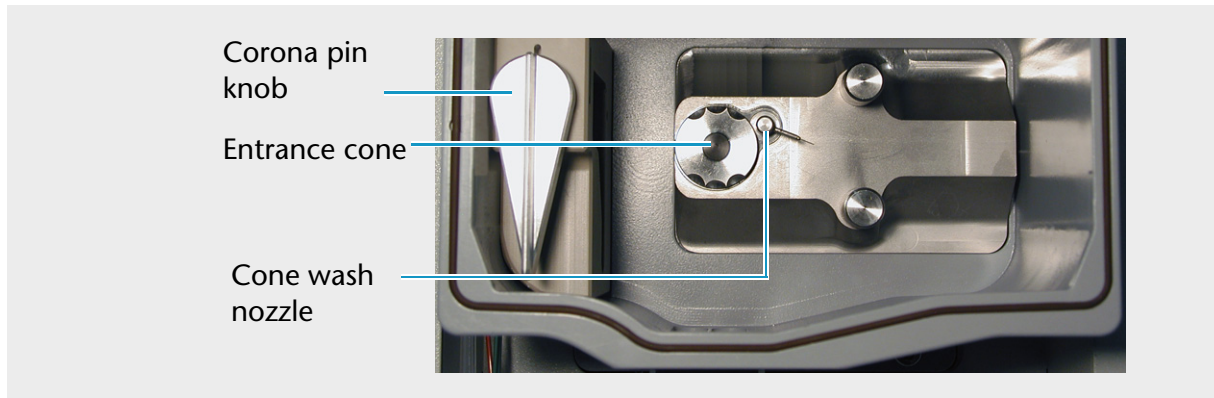

Fig. 60 View of the front side of the source block with the cone wash nozzle turned away from the entrance cone
Note: When it is not in use, ensure that the cone wash nozzle faces away from the entrance cone. See Figure 60 on page 90.
CAUTION! The corona needle is very sharp. Do not attempt to remove the entrance cone or the cone wash nozzle before you turn the corona pin knob to its vertical position. See Figure 60.
2. Being careful to handle the cone wash nozzle by its base, rotate the cone wash nozzle away from the entrance cone. See Figure 60.
7. Holding the cone wash nozzle by its base, insert it into the source block, and then turn the nozzle to the right. See Figure 60 on page 90.
8. Insert the entrance cone into the source block, and then turn the entrance cone counter-clockwise until it locks in place. See Figure 60.